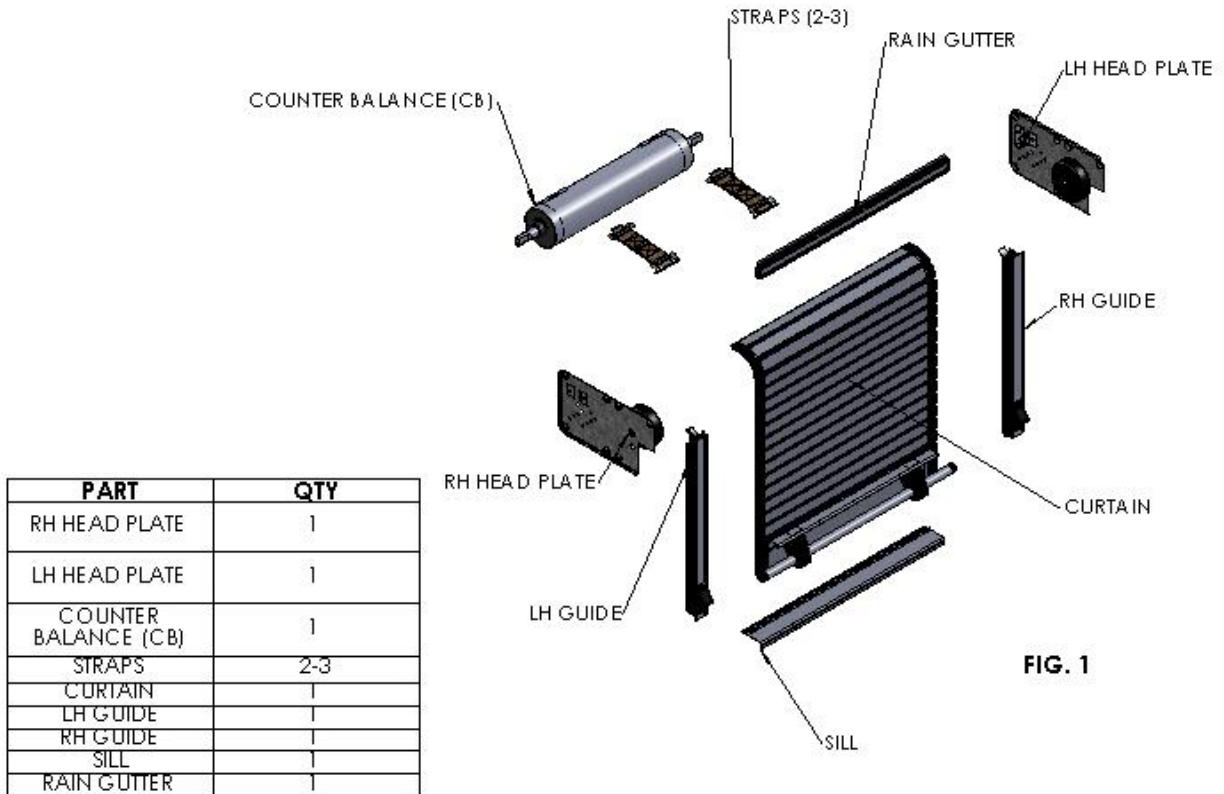

FIG. 1
- Carefully unpack the contents with attention not to damage the door or its components. Inventory parts. (SEE FIG. 1 Exploded Assembly)